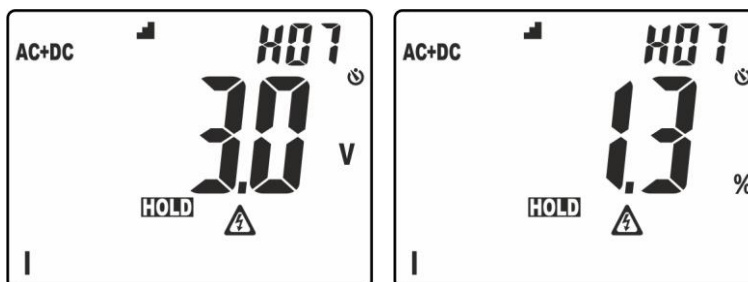

Fig. 4: Display of ordering of amplitude of harmonic analysis
- Long pressing of the key (at least 2s) in order to activate the **H H_0** (**H**igher **H**armonic **O**rdering) ordering function of the amplitude of harmonics. In these conditions, function "HOLD" is automatically activated, symbol \blacksquare is shown on the display, the bargraph is disabled and the instrument shows the value of amplitude of all harmonics between the 2nd and the 25th, in **decreasing order** from the harmonic with the highest value, as shown in Fig. 4.
In the example in Fig. 4, the harmonic with the highest value corresponds to the 7th. Press key \blacktriangle to observe the amplitude of the remaining harmonics and press key **H/H%/H \blacksquare** again to switch between display in absolute and percentage values. Turn the rotary switch to exit the function.